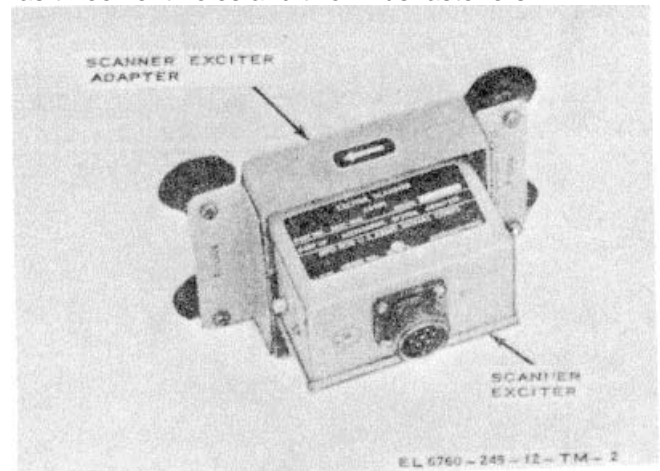

Figure 1-2. Scanner exciter and scanner exciter adapter.
c. *Scanner Exciter* (fig. 1-2). The scanner exciter is a flashing light source which provides alternating light signals controlled from the system analyzer to test the response of the scanner in the ACCS under test. It contains two lights and a photocell inclosed in a metal case. A connector is mounted on one side of the metal case which provides the connection to the test panel SCANNER EXCITER connector. On the other side of the metal case are two translucent windows which transmit the flashing light sources.
d. *Scanner Exciter Adapter* (fig. 1-2). The scanner exciter adapter consists of a metal frame with four suction cups. The metal frame is used